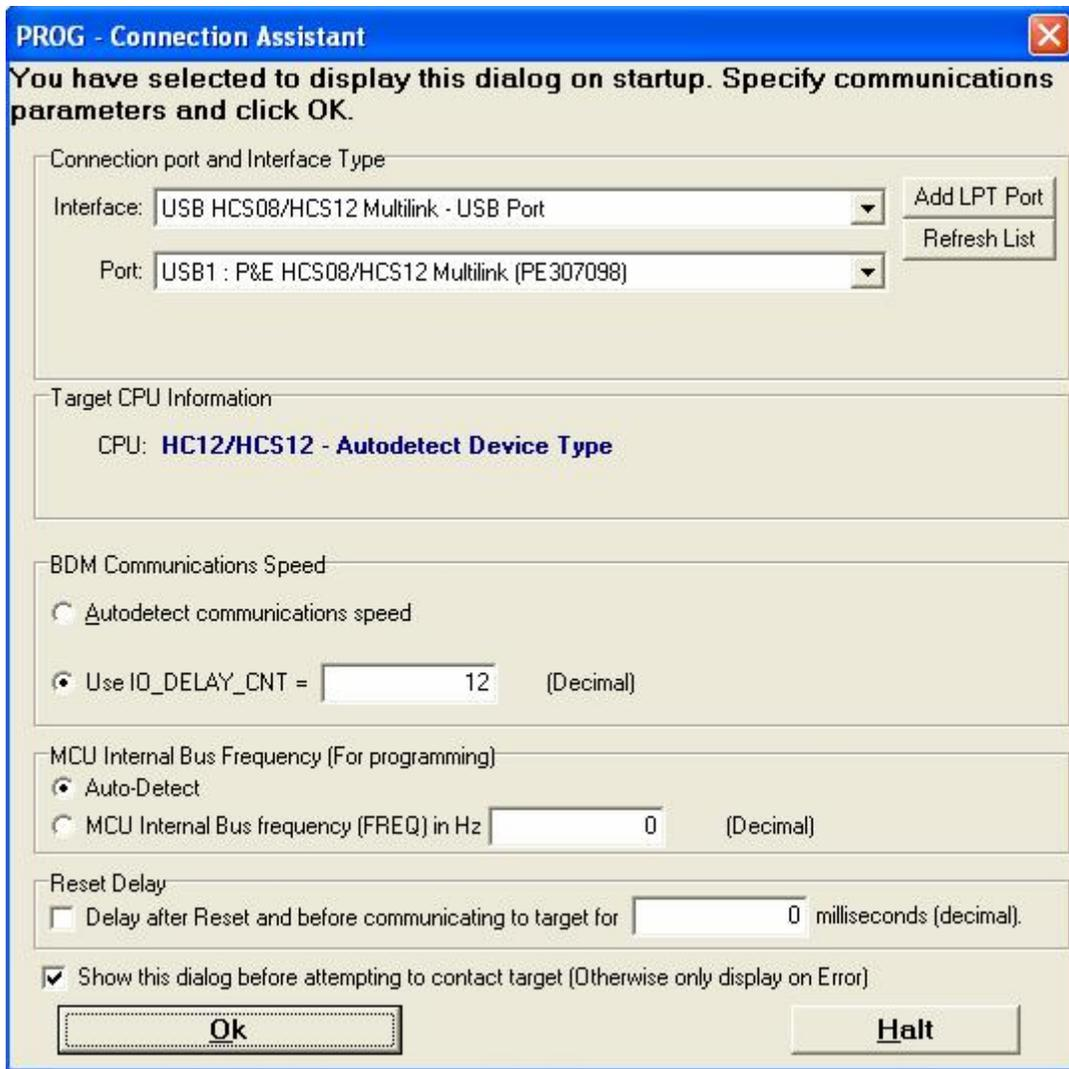

Figure 3. Connection Assistant
- 5) The Connection Assistant should start. Make sure the option match those shown in figure 3, and click “OK”. The blue and green LEDs should be lit at this point.